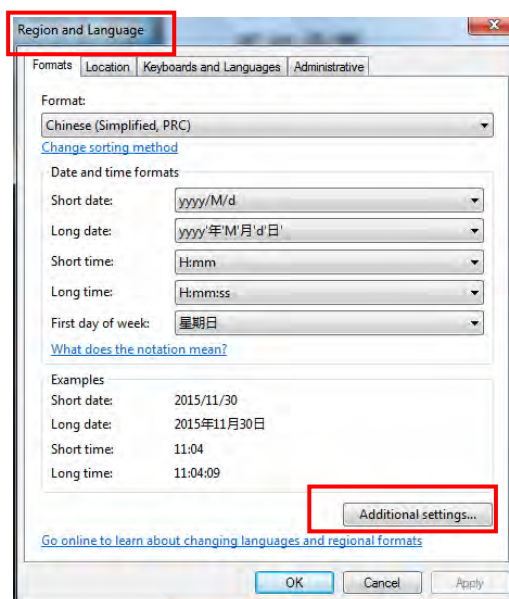

Figure 20: Regional and Language Options screen
- n) **Regional and language options:** The formats for the date, the time and the display of the numbers of a certain country can be selected in the **regional** settings. Select the desired language in the **Languages** setting. Click on **Regional and Language Options** to open the screen, see Figure 20.
**Set display format:** Select Figure 20 a format on the screen, for example *English (Great Britain)* and set the time and date format as required. Click on **Additional settings...** to set number, currency etc.